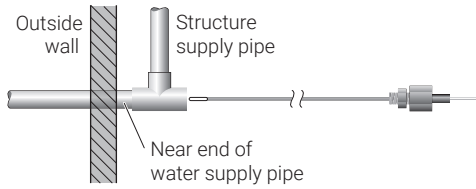
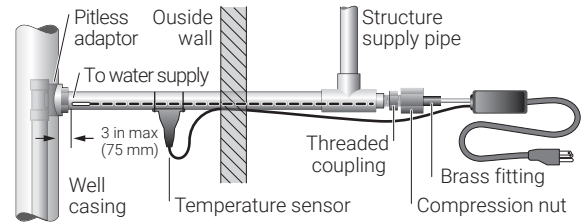
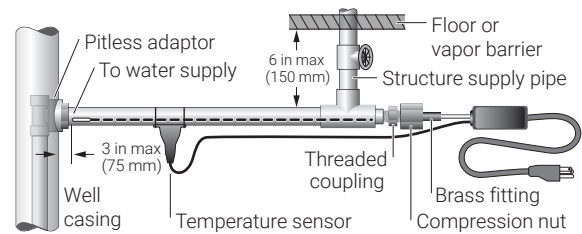

Figure 6
Figure 7
Figure 8
- Attach the tee assembly to the near end of the water supply pipe, per local codes. Be sure the tee is installed so that the cable will be able to pass straight through the tee and into the pipe with no bending required (see Figure 6).
- Attach structure supply pipe to the tee opening as shown in Figure 6, per local codes, using appropriate materials. If the cable will be installed as in Figure 8 and a shutoff valve will be used in this section of the pipe, the total length of unheated pipe (pipe plus valve without cable in it) must not exceed 6 in (150 mm).
**Note: If this installation is for pipe supplying water to a manufactured home, the structure supply connection should be made underneath the vapor barrier supplied with the home, if possible (see Figure 8).**
- Ensure adaptor and appropriate pipe fittings to accept threaded coupling are properly connected to the tee, per local codes, and fully insert the cable into the water supply pipe through remaining opening in tee assembly as shown in Figure 7 or Figure 8 as appropriate for the installation. If a valve or shutoff is installed at any point on the pipe, the heating cable must not pass through it. Proceed to Step 6.
- If no pipe has been added to the tee, ensure adaptor and appropriate pipe fittings to accept threaded coupling are properly connected to the tee, per local codes, and fully insert the cable into the water supply pipe through remaining opening in tee assembly as shown in Figure 7 or Figure 8 as appropriate for the installation.
- Fully extend temperature sensor cord and attach temperature sensor to pipe as shown in Figure 7 (for thru walls) or Figure 8 (for under floors) as appropriate for the installation, using tie-wraps provided. If installation is as shown in Figure 7, the temperature sensor MUST be attached to the pipe as far from the outside wall as possible.